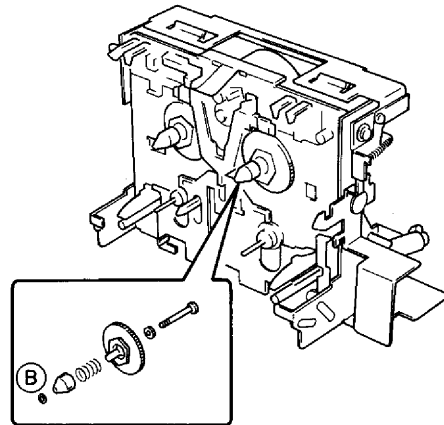

Fig. 7
- a. Remove the E-ring (B) in fig. 7.